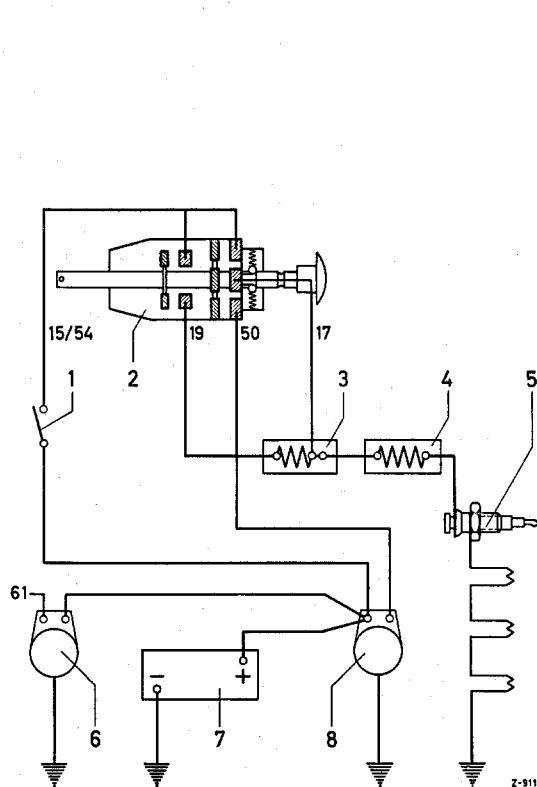

Figure 15-33/3
The Figure 15-33/3 shows the electric wiring diagram for the parts involved in the starting procedure. In this wiring diagram the push pull switch (2) is in driving position (F). Only if the main switch (1) is switched on, the entire system is ready for operation. This is done by turning the key in position "drive" (see Figure 15-33/3).